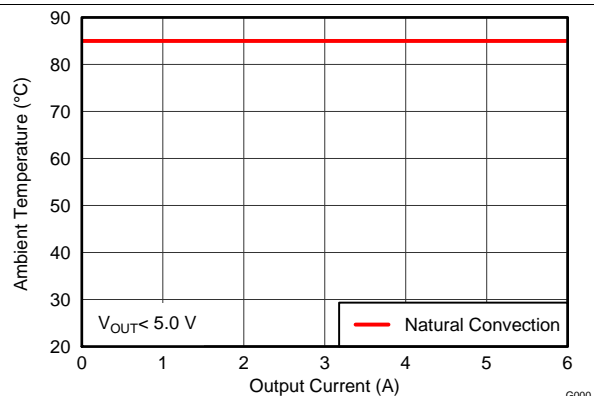
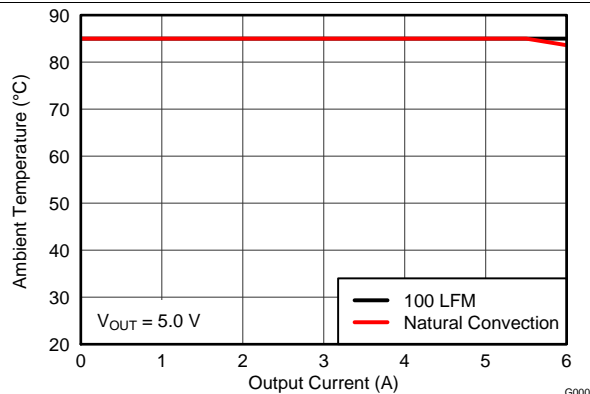

Figure 14. Safe Operating Area
Figure 15. Safe Operating Area
- (2) The temperature derating curves represent the conditions at which internal components are at or below the manufacturer's maximum operating temperatures. Derating limits apply to devices soldered directly to a 100 mm × 100 mm double-sided PCB with 1 oz. copper. Applies to Figure 14 and Figure 15.